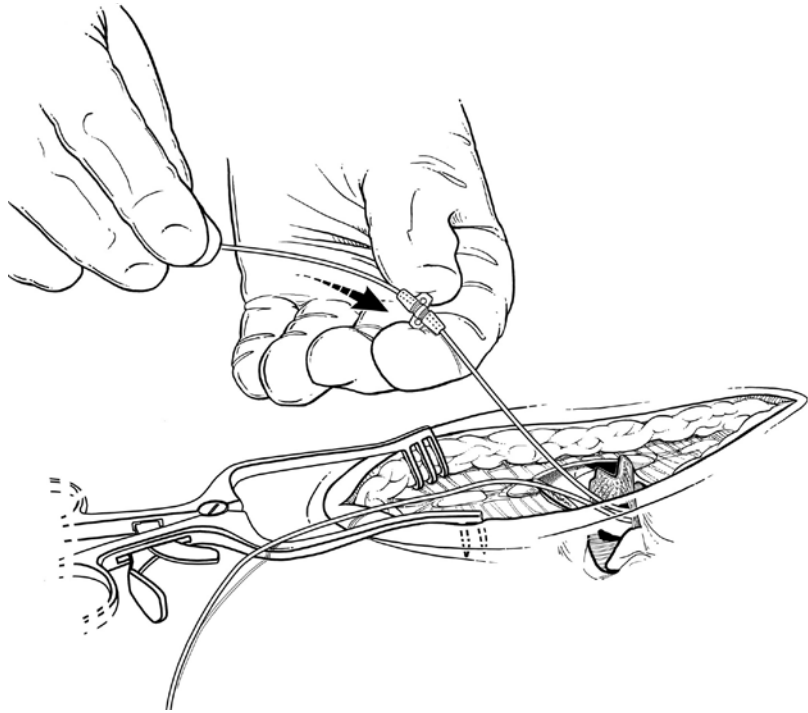

FIGURE 33
- 2 While maintaining lead position, slide an anchor onto the proximal end of each lead body (FIGURE 33).